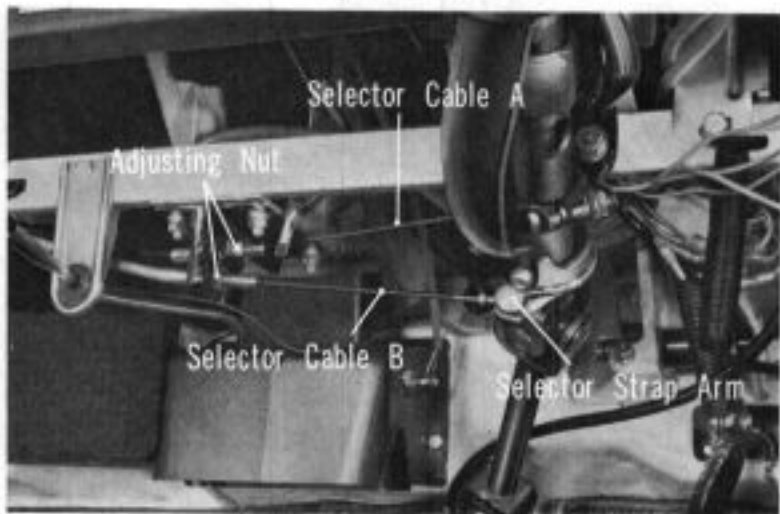

Fig. 7B-267
19. Install the selector cable A and B on the selector strap arm.(Fig. 7B-267)